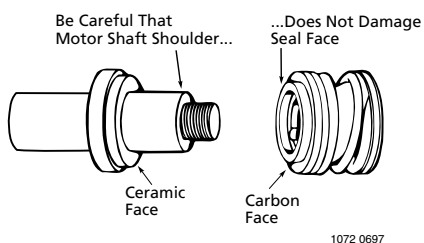

Figure 23 – Protect Seal Faces
- Step 9. Slide rotating seal member (carbon face first) onto shaft until rubber drive ring hits shaft shoulder (Figure 23).